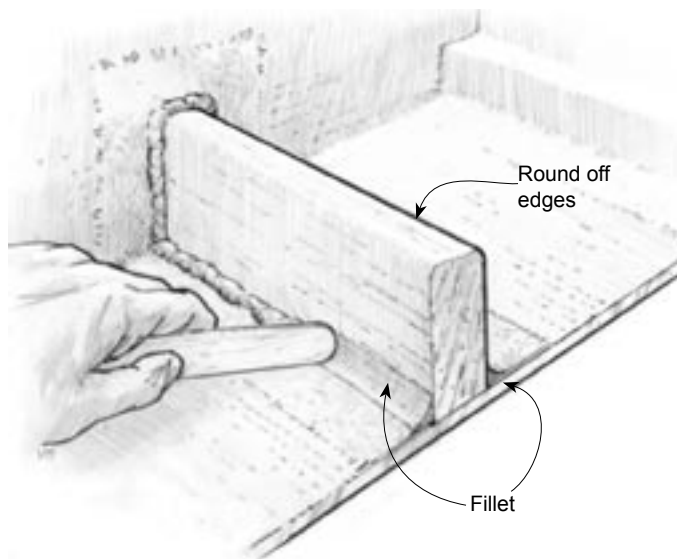

Figure 3-4 Epoxy mixture should squeeze out of the joint. Shape the squeezed out epoxy into a fillet
7. Brace or tape the stringer in position as necessary. Shape the squeezed out epoxy into a fillet and, if necessary, apply additional thickened epoxy to the joint for a smooth 12mm. radius fillet. (Figure 3-4) Clean up excess epoxy before it cures. Remove clamps after epoxy cures thoroughly.